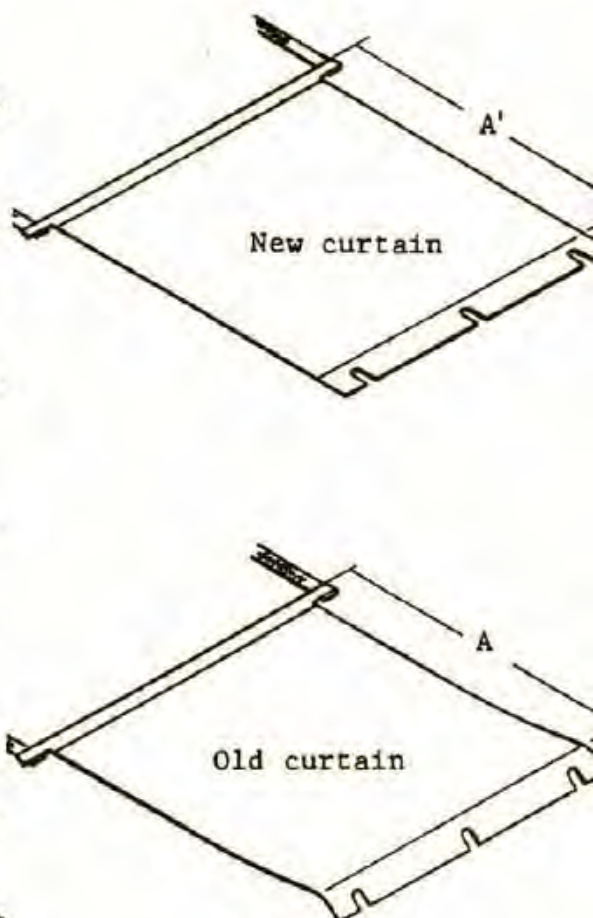

Fig. 40
- a. Installing a new curtain in exactly the same position as the old ones, draw a line on reverse side of new curtain by pencil as $A=A'$ shown in Fig. 40.